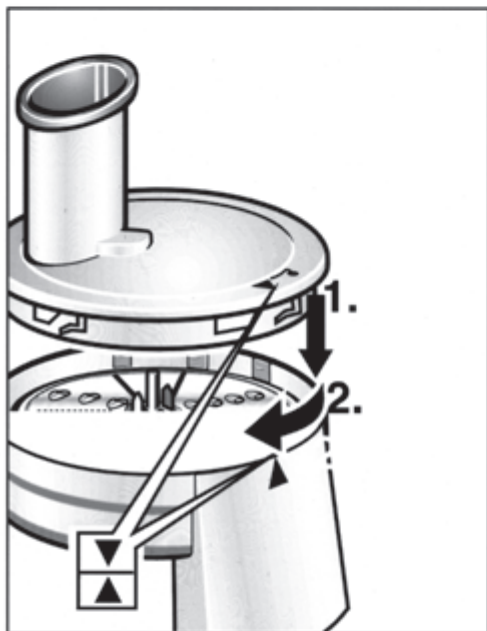

Figure 11
3. Place cover on housing and turn counterclockwise until cover snaps into place and arrows are aligned, see figure 11.